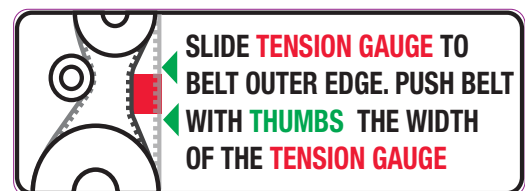

Figure 41
- **Recommended setting:** Required belt tension is 11 mm (7/16") of play, which corresponds to the width of the red tension gauge in the tensioner mechanism. See Figure 41.
- Rotate Belt Tensioner adjusting bolt (3) to raise or lower belt tension. See Figure 41.